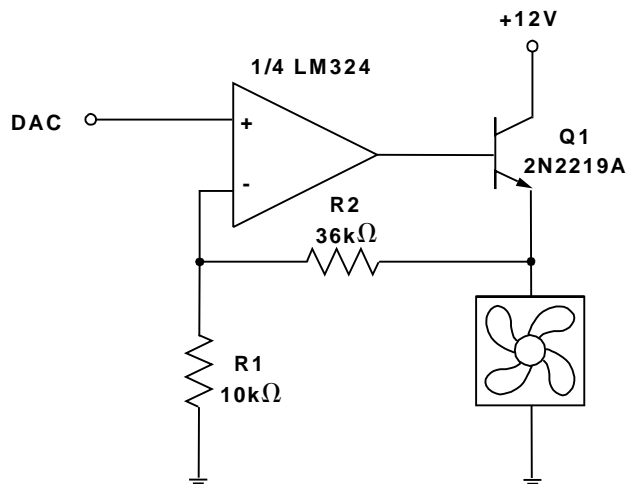

Figure 11a. Fan Drive Circuit with Op-Amp and Emitter-Follower
Suitable fan drive circuits are given in Figures 11a to 11e. When using any of these circuits, the following points should be noted:
1. All of these circuits will provide an output range from zero to almost  $+12\text{V}$ , apart from Figure 11a which loses the base-emitter voltage drop of Q1 due to the emitter-follower configuration.